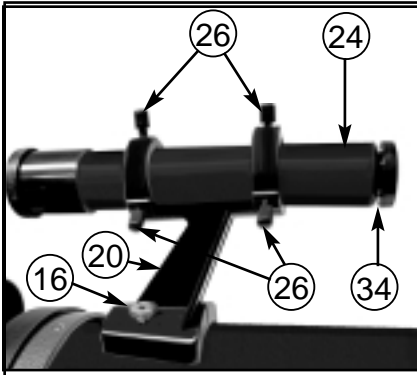

Fig. 1a: Model 114 EQ-D: Viewfinder assembly.
Your Jupiter 114 EQ-D comes to you packaged almost entirely pre-assembled. (References in this section—e.g. (6)—are to **Fig. 1a - 1e** unless otherwise specified.)